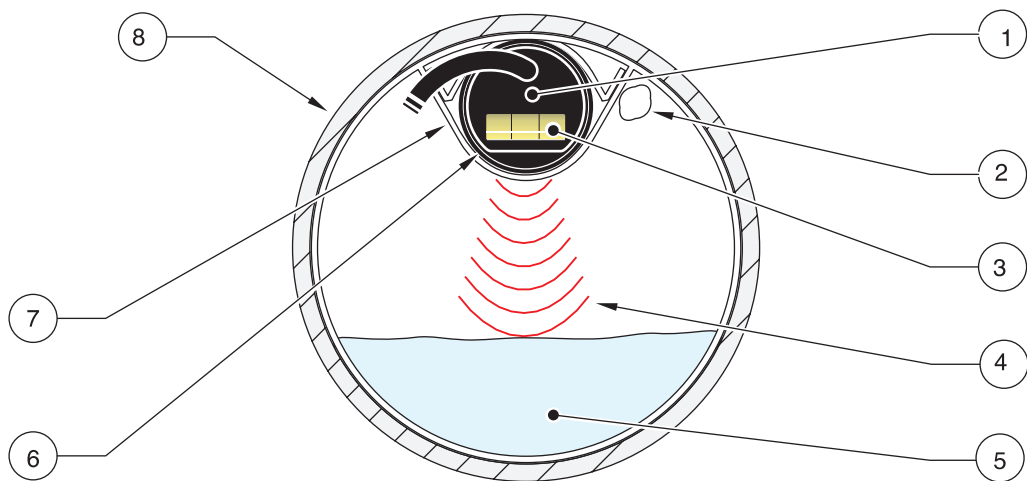

Figure 29 End View of In-Pipe
- Mount the sensor over the center of the flow stream where the surface turbulence is minimized (Figure 29 on page 52).